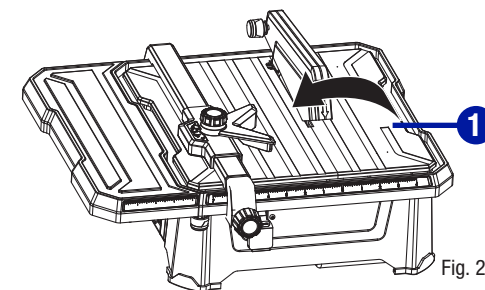

Fig. 22
- Raise the 45° vertical fence (1) approx. 45° and remove. (Fig. 22)